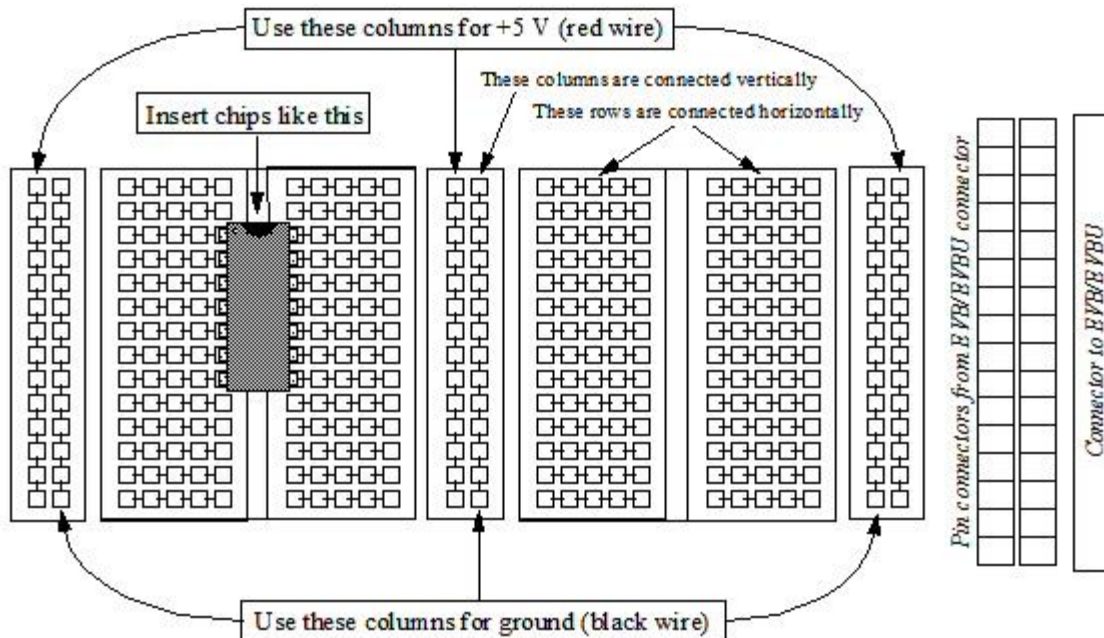

Figure 2.1 - Smart Car Protoboard
The type of protoboard you will be using has been specially designed to be mounted on the chassis of the *Smart Car*. *Figure 2.1* shows how this protoboard should be used.
This protoboard has a ribbon cable connector for connecting to an EVB (or EVBU), a wire-insertion block strip to connect to the EVB pins, and a *main wiring area* where circuits are developed. In the wiring area shown in *Figure 2.1*, the lines indicate that the “holes” in the protoboard are connected underneath. This figure also illustrates how to properly position a chip along specific columns on the protoboard surface so that none of its pins are shorted together.
2. Insert chips only in the special columns on the protoboard as illustrated in *Figure 2.1*.